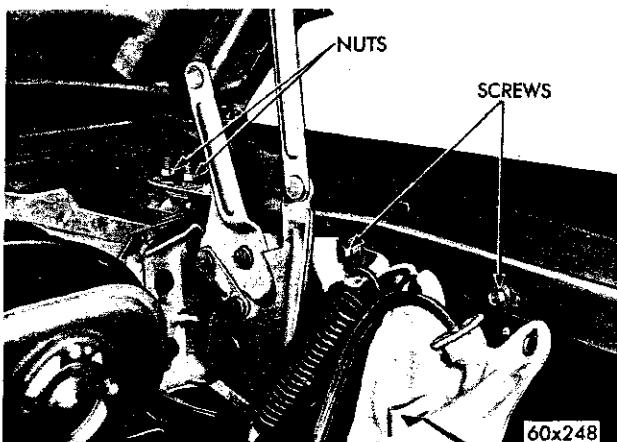

Fig. 5—Fender to Cowl Mounting
- (1) Drain the radiator and remove the battery.
- (2) Remove the front bumper and the hood assembly.
- (3) Disconnect the radiator hoses, the head lamp wires and the horn wires.
- (4) Remove the hood hinge to the fender mounting screws (one each side).
- (5) Remove the upper nuts and studs (two at each side) attaching the fender to the cowl panel (Fig. 5).